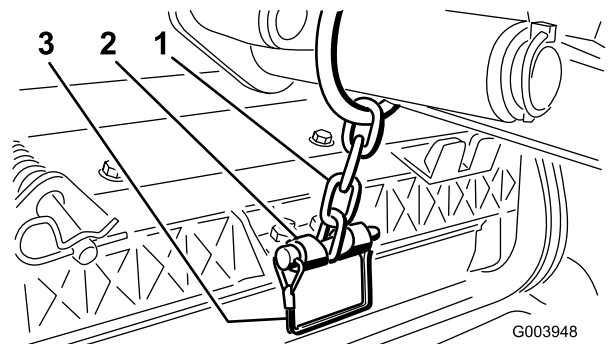

Figure 13
12. Secure the lift arm chain to the chain bracket with the snapper pin (Figure 13). Use the number of chain links described in the cutting unit Operator's Manual.